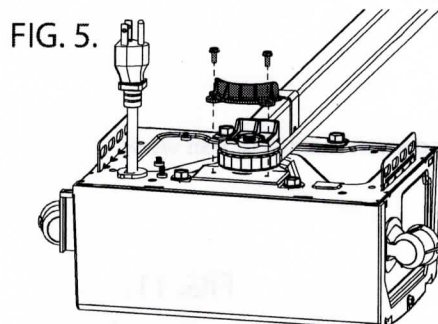

FIG. 5.
- On belt drive models, remove two screws and belt guard from rail assembly. FIG. 5.